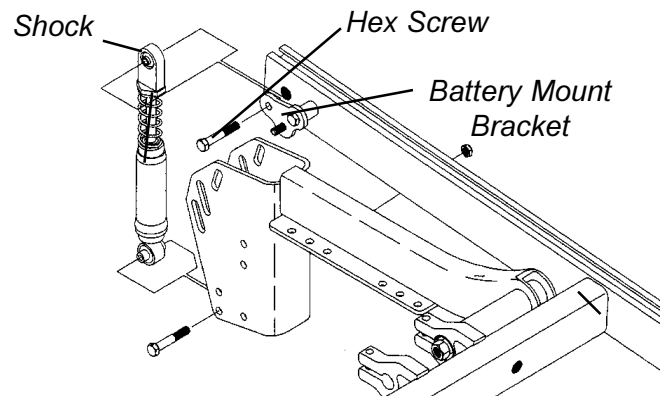

FIGURE 8 - CONVERTING TORQUE AND X RUBBER ELEMENTS TO ARROW SHOCKS
**CONVERTING TORQUE AND X RUBBER ELEMENTS TO ARROW SHOCKS (FIGURE 8)**